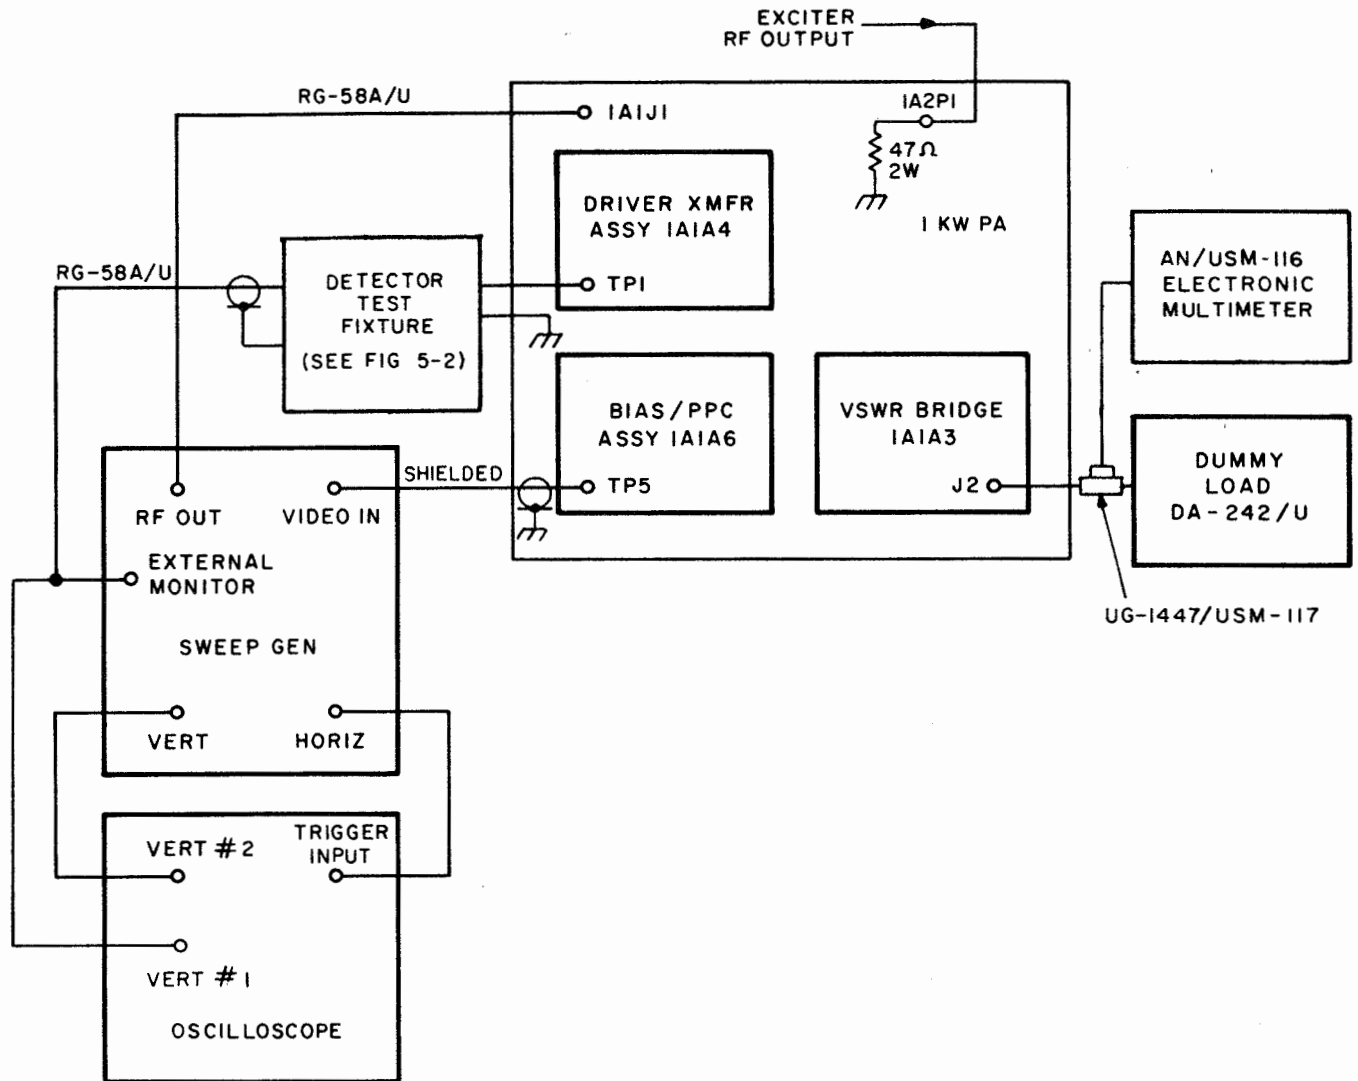

Figure 5-3. Final Transformer Alignment Test Setup
b. Connect test equipment with 1 KW PA to provide test setup illustrated by figure 5-3.
j. Unsolder strap from TP1 on Discriminator Assembly 9A1A1 item 3, (figure 5-31) and solder center conductor of test cable (prepared in step h.) to TP1 (figure 5-3). Secure test cable shield lug under nearest ground screw.